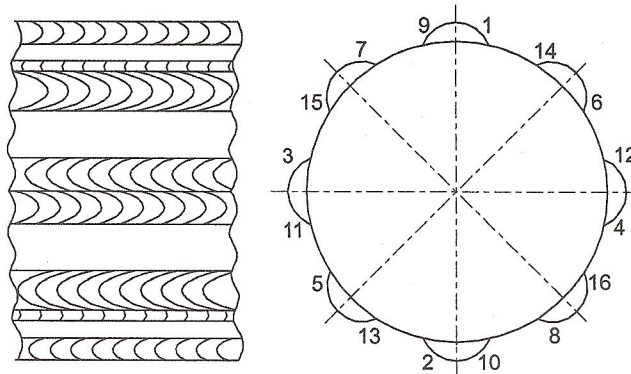

Fig. 09-04 Restoration sketch of severely worn pin shafts
- 2) Based on the diameter of pin shafts, cross weld at points of four, six, eight, twelve or sixteen etc as showed in Fig. 09-04.
- 3) When build-up welding, cross weld back and forth at both the left and right directions and in accordance with the sequence of one, two, three---sixteen as showed in Fig. 09-04.